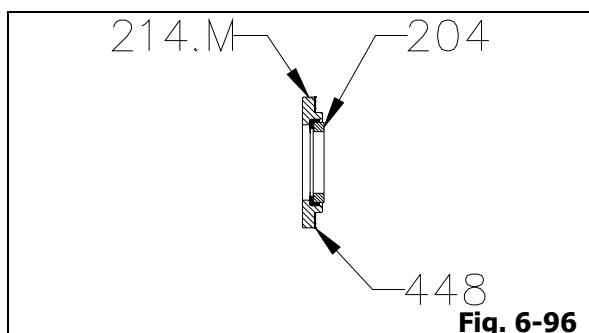

Fig. 6-96
12. Coat pump end mechanical seal (204) seat surface in end ring for mechanical sealing (214.M) with oil. Carefully place the stationary portion of pump end mechanical seal (204) into position and press gently by hand until the shoulder of the seal is fully seated against the end ring for mechanical sealing (214.M). Make sure that the lapped face of seal is facing outside.
13. Install end ring gasket (448) onto end ring for mechanical sealing (214.M) (Fig. 6-96).